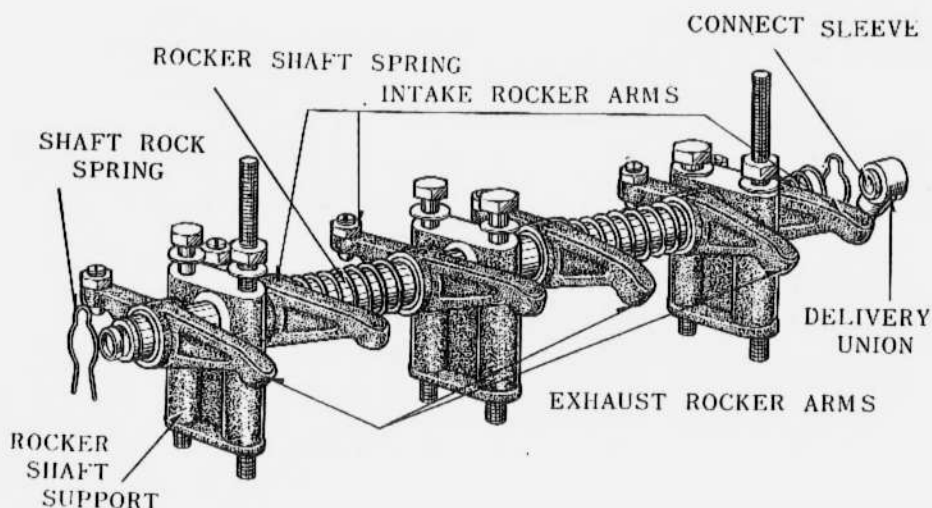

Figure 23 - Layout of Rocker Arm and Shaft Parts
- (h) Install the rocker arms, springs, supports, support bolts and lock springs in their correct position by referring to the above chart and Figure 23.